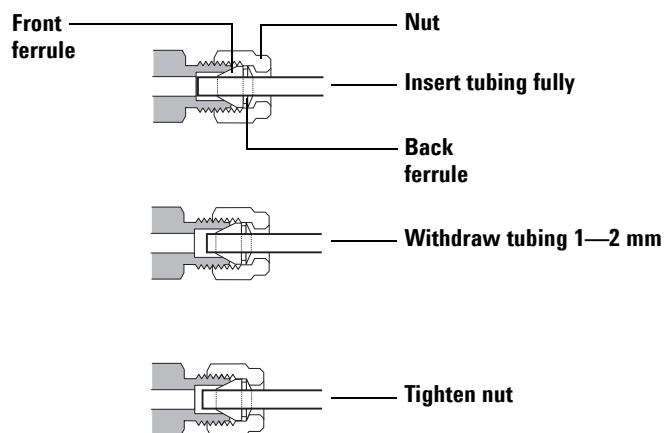

Figure 21 Insert the tubing
- 5 Push the tube fully into the plug, then withdraw it approximately 1 to 2 mm (Figure 21).